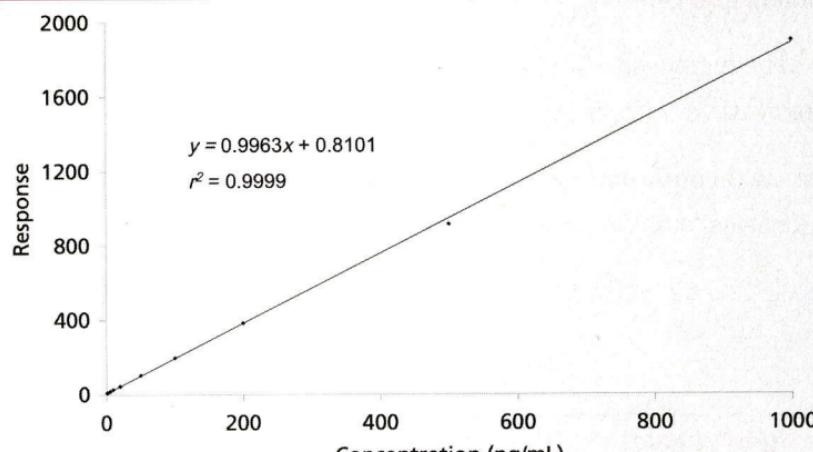

Figure 1: Calibration plot of response versus concentration.
the calculated  $y$ -intercept is to zero. This is difficult to do visually from a plot of the response vs. concentration, as in Figure 1, but is easy (and more reliable) to do statistically. If  $y$  is less than one standard deviation (SD) away from zero, it can be assumed that this is normal variation and  $x = 0, y = 0$  can be used in the standard curve. We can test this with the regression statistics using the standard error (SE), since we don't have enough data points to calculate the SD of  $y$  at  $x = 0$ . There are two values of SE included in the Excel data of Table II. The first is the SE for the entire curve, labeled simply “Standard Error” (1.4134). The second is the standard error of the  $y$ -intercept (0.5244), also labeled “Standard Error,” but included in the information about the  $y$ -intercept at the bottom of the table. The SE for the curve is based upon the variability of the curve throughout its range, including both high and low concentrations. The SE for the  $y$ -intercept is based upon estimates of variability at the  $y$ -intercept, not the entire curve, and will always be smaller. The SE of the  $y$ -intercept ( $SE_y$ ) is the appropriate value to use to test if the curve passes through the origin:
Examining the data of Table II, we can see that the  $y$ -intercept is 0.8101 and  $SE_y$  is 0.5244, so the relationship of equation 4 applies. The calibration curve is described properly as  $y = 0.9963x + 0.8101$ ; this is the calibration curve plotted in Figure 1. You can see the practical impact of choosing the proper origin by examining the last two columns of Table I. Here the %-error is shown for each point on the curve. This is calculated as (experimental value – calculated value)/calculated value, and expressed as a percentage. The calculated value is determined by the regression equation for the calibration curve (shown in the footnote of Table I). If the curve is forced through zero (third column), errors as large as 45% occur, whereas these are reduced by a factor of 2 or more for low concentrations if the proper curve fit is used (fourth column). Errors are larger at low concentrations, as expected; this will be discussed in more detail next month.